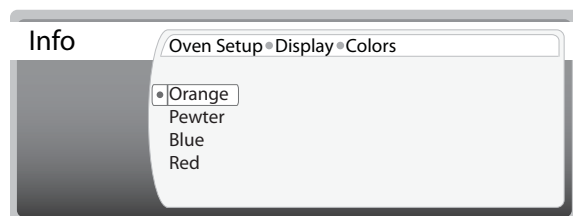

Figure 4.6: Adjust Color
7. Change the color to the desired setting by turning the inner CookWheel knob left or right (Figure 4.6).